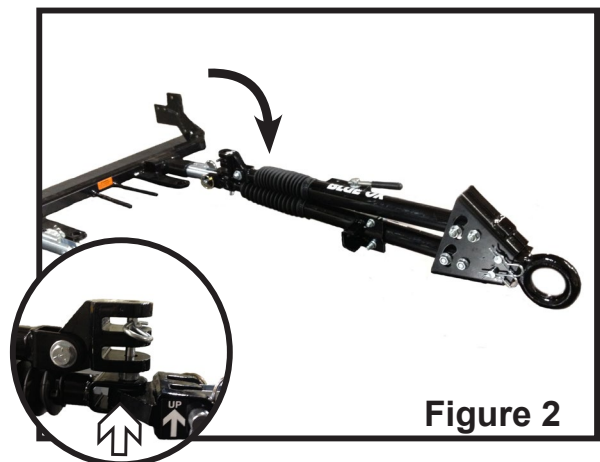

Figure 2
3. Unhook the pintle ring from the pintle hitch. Bring the passenger side leg over to the driver side and seat the triple lug onto the support pin of the driver side leg. Pin both legs together with the hair pin provided (Figure 2).